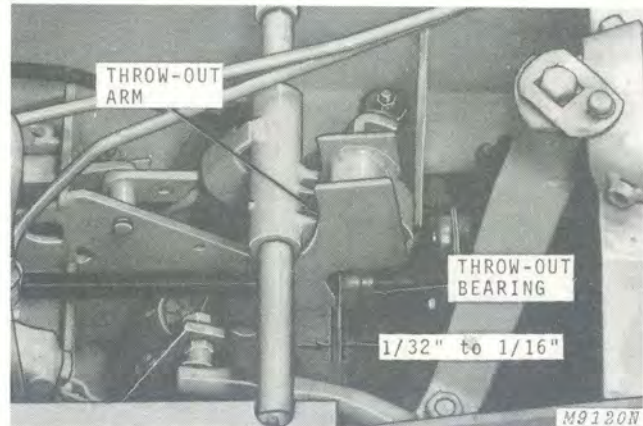
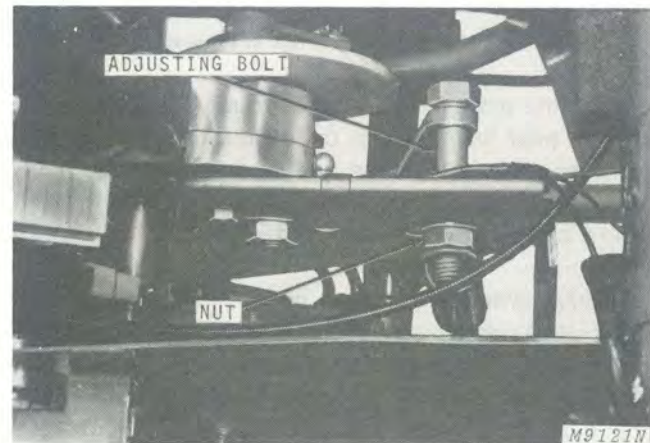

Fig. 15-Clutch Adjustment Dimensions
Fig. 16-Clutch Adjusting Bolt (Battery Removed)
Adjust clutch linkage as shown in Figures 15 and 16.
The clutch linkage is properly adjusted when the distance between the throw-out arm and the throw-out bearing is between 1/32 to 1/16-inch, Figure 15, with clutch pedal in released (up) position.
2. Loosen nut and move adjusting bolt, Figure 16, in slotted hole until correct adjustment is obtained, Figure 15.